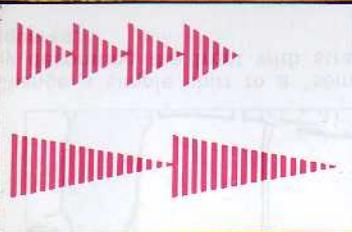

Fig. 1
1. Take a good look at the letters in Fig. 1 and note the direction they face, so that you will position them correctly on the fabric you are monogramming.
5. Set speed selector (11) on low-speed.